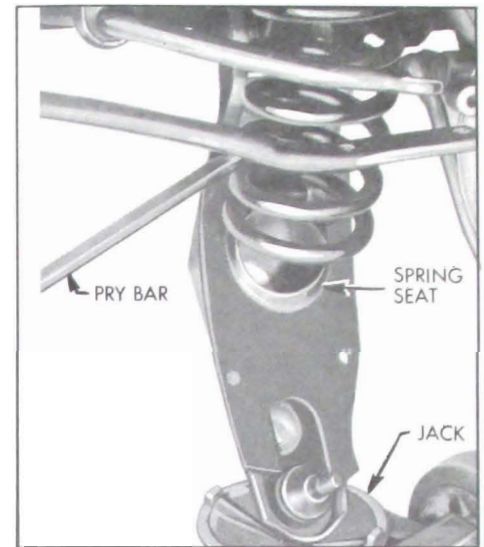

Figure 7-25—Prying Spring off its Seat
9. Carefully lower the jack supporting the lower control arm to release the spring. With the jack all the way down to the floor it still may be necessary to pry the spring off its seat on the lower control arm with a long pry bar. See Figure 7-25. Caution should be exercised in handling this loaded spring while still attached.